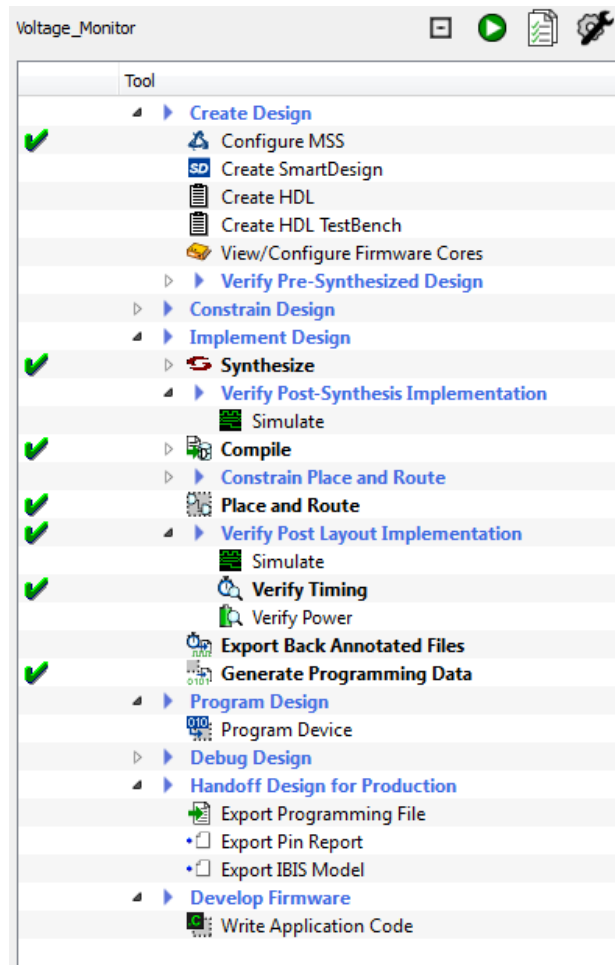

Figure 25 · Design Flow Window After Building the Project
2. The **Design Flow** window looks as shown in Figure 25 .